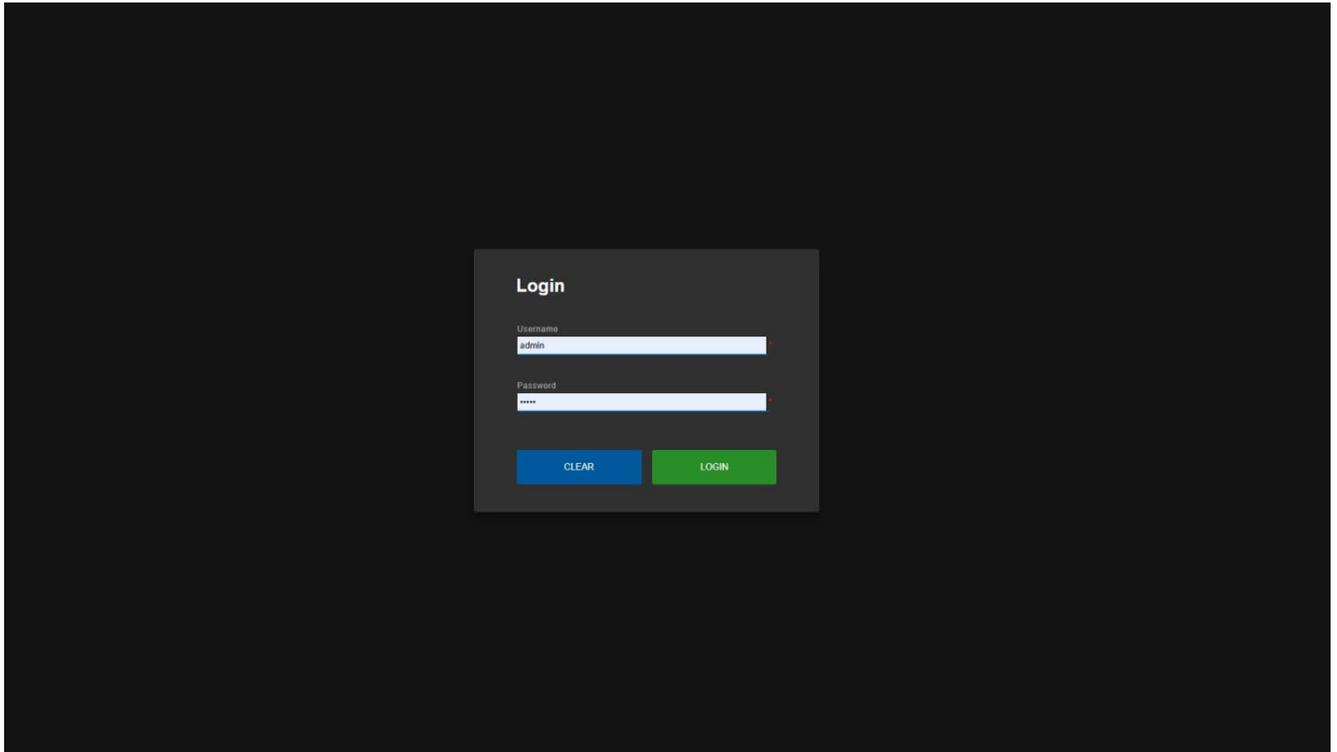

Figure 9-1 : MAGNUM - Login Screen
2. Log in using the appropriate login and password. The factory default is admin/admin (as shown in Figure 9-1).